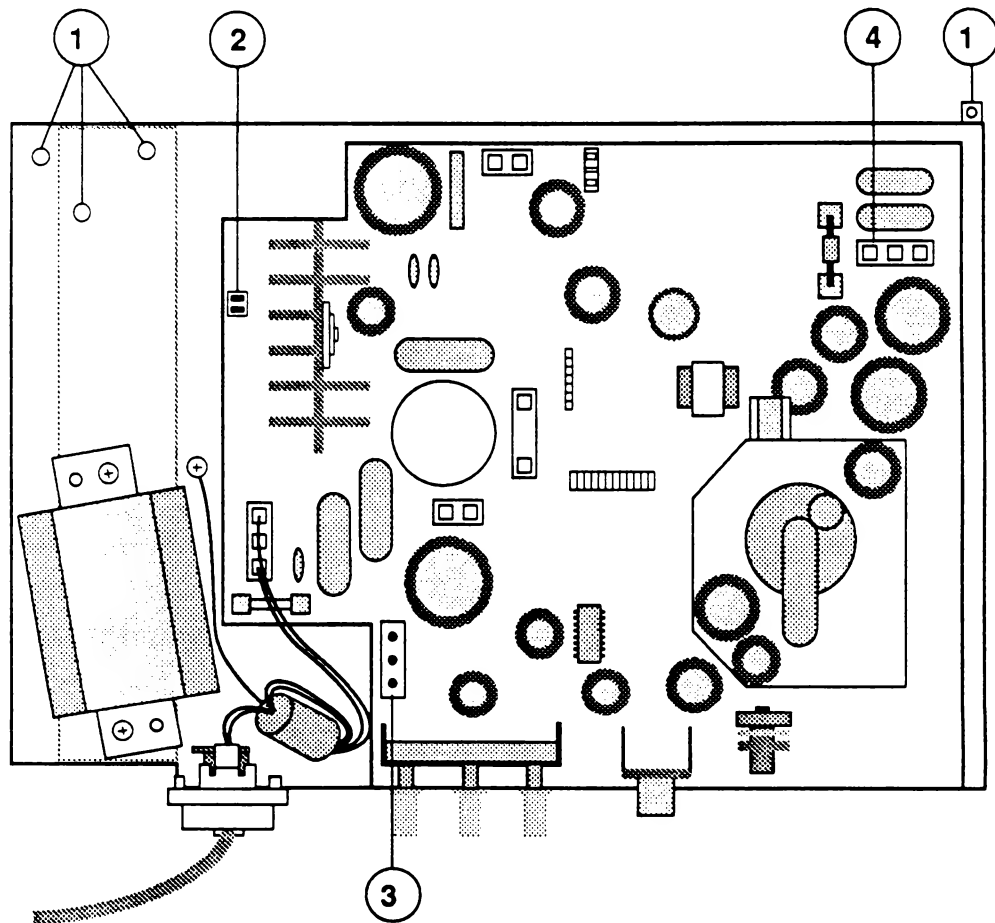

FIGURE 4
- 5.9 Other Parts (Figure 4)
4. Unscrew the four screws (Figure 4, #1) that fasten the main logic board assembly to the CRT mounting plate.
7. Disconnect the pink/white LED wire (P5) from its connector (Figure 4, #2).
8. Disconnect the green/yellow yoke wire (P3) from the main logic board (Figure 4, #3).
9. Disconnect the red/blue yoke wires (P4) from the board (Figure 4, #4).